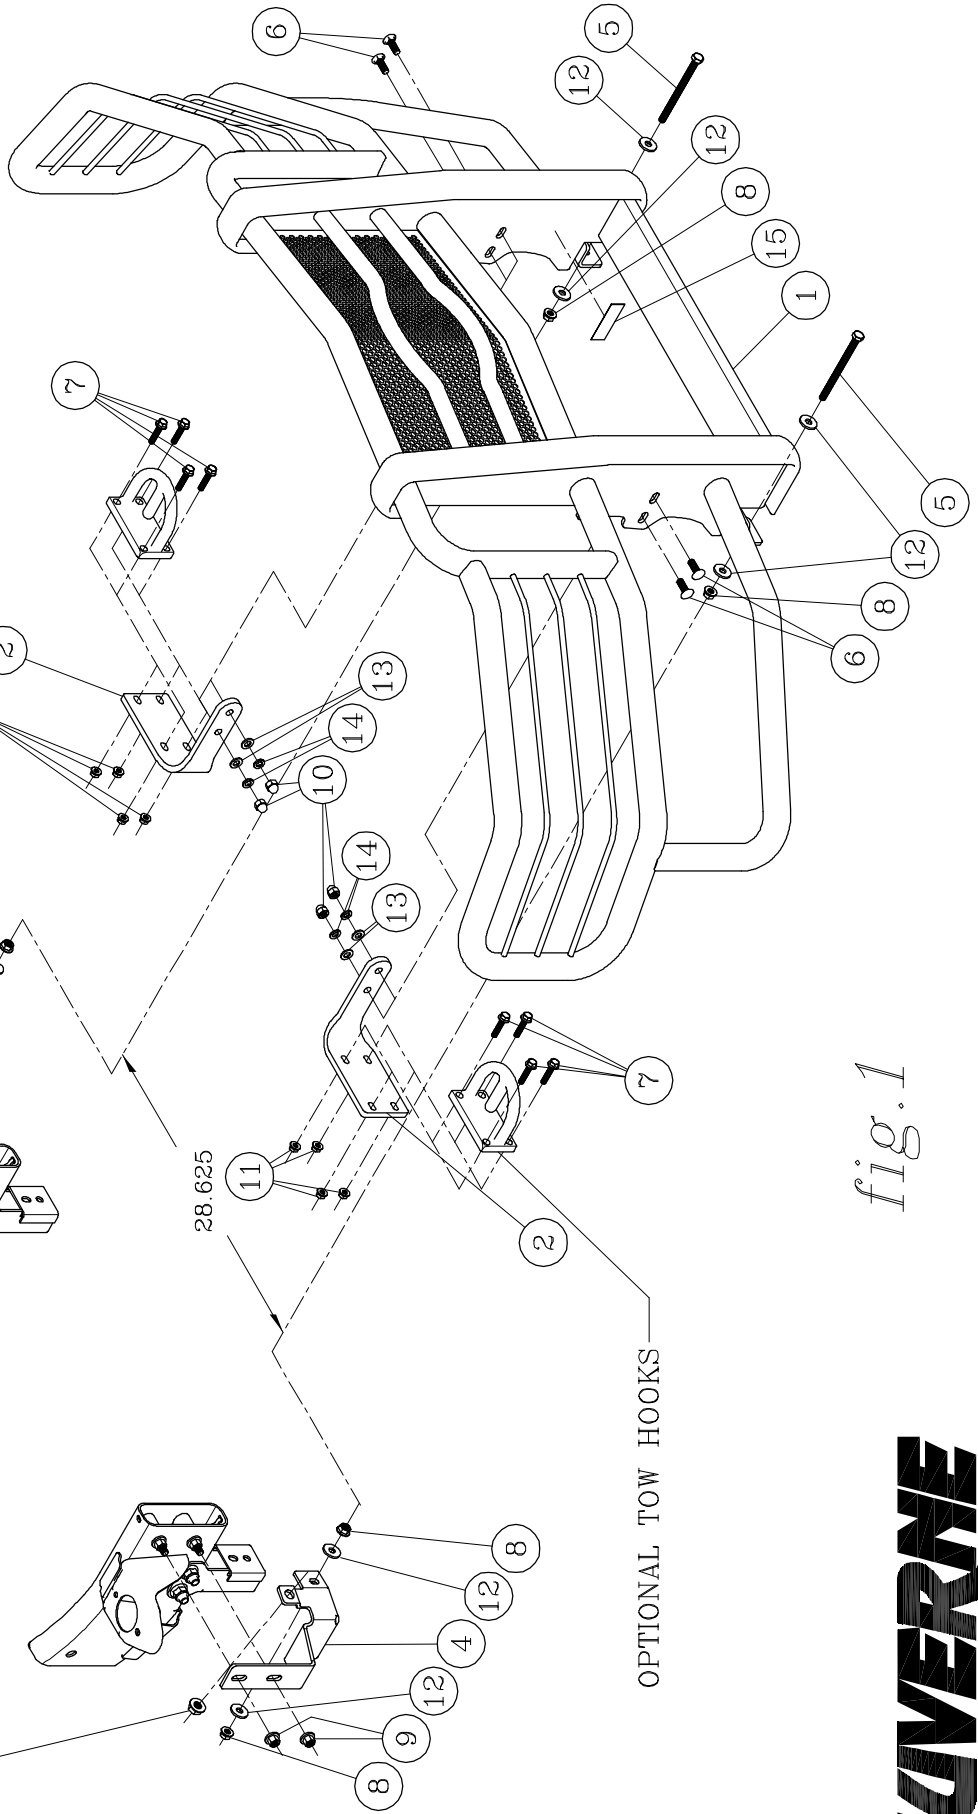

fig. 1
3. INSTALL THE TOP MOUNTING BRACKETS (ITEM #2) TO THE PLATES ON THE END OF THE FRAME USING THE FOUR 3/8"-16 X 1-3/4" WASHER HEAD BOLTS (ITEM #7) AND THE FOUR 3/8"-16 FLANGE NUTS (ITEM #11). IF YOU HAVE TOW HOOKS, REINSTALL THEM AT THIS TIME AS SHOWN IN *Fig. 1*. HAND TIGHTEN ONLY AT THIS TIME.
6. ON THE 1/2"-13 X 6" BOLTS (ITEM #5), INSTALL AN 1/2" FLAT WASHER (ITEM #12) AND INSERT IT THROUGH THE HOLES IN THE UPRIGHTS BOTTOM MOUNTING BRACKETS FROM THE FRONT SIDE. INSTALL ANOTHER FLAT WASHER (ITEM #12) AND AN 1/2"-13 FLANGE NUT (ITEM #8). INSTALL ANOTHER FLANGE NUT (ITEM #8) FACING FORWARD AND ANOTHER FLAT WASHER (ITEM #12). WITH THE END OF THE BOLT THROUGH THE LOWER MOUNTING BRACKET, INSTALL A FLAT WASHER (ITEM #12) AND AN 1/2"-13 FLANGE NUT (ITEM #8). SEE *fig.1*.